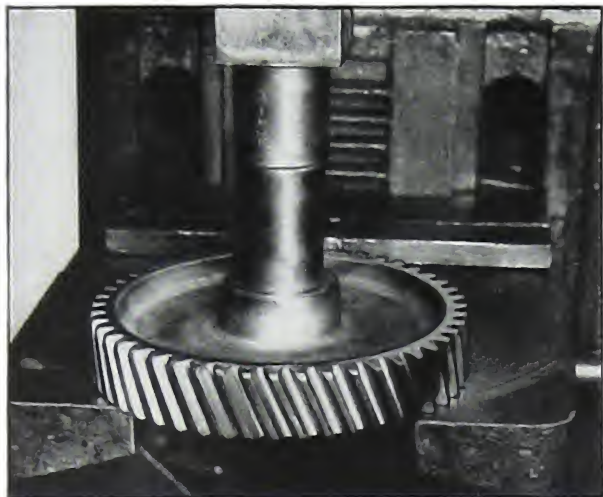

Fig. 2-41. Pressing new bushing in idler gear
2. Use driving mandrel, ST-234, to press out the old bushing and to press in the new bushing. See Fig. 2-41.